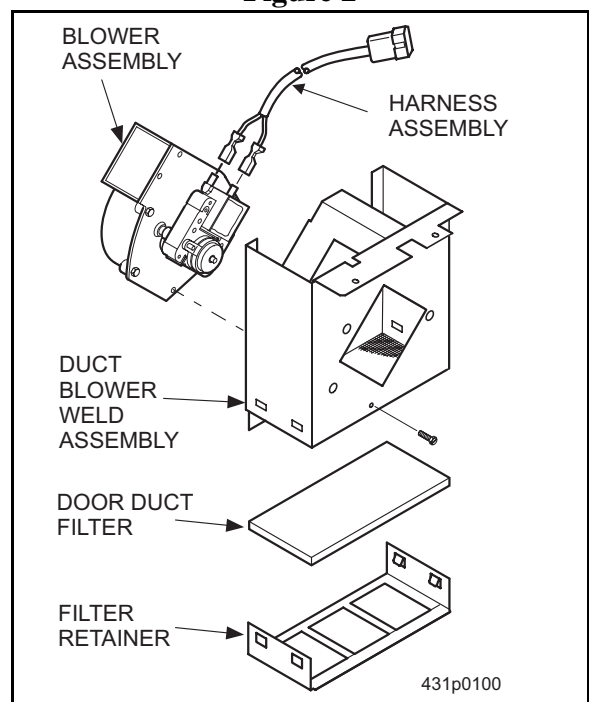

Figure 3
7. To remove the blower motor, remove the two screws securing the motor to the duct assembly (figure 3).